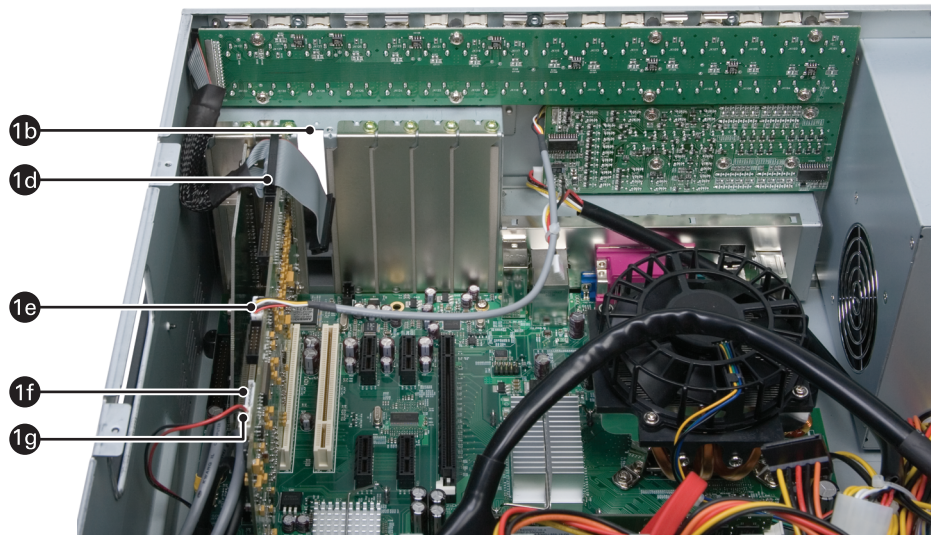

Figure 4. Preparing the Main Capture Card for Removal
1. Prepare the main capture card for removal (refer to Figure 4):